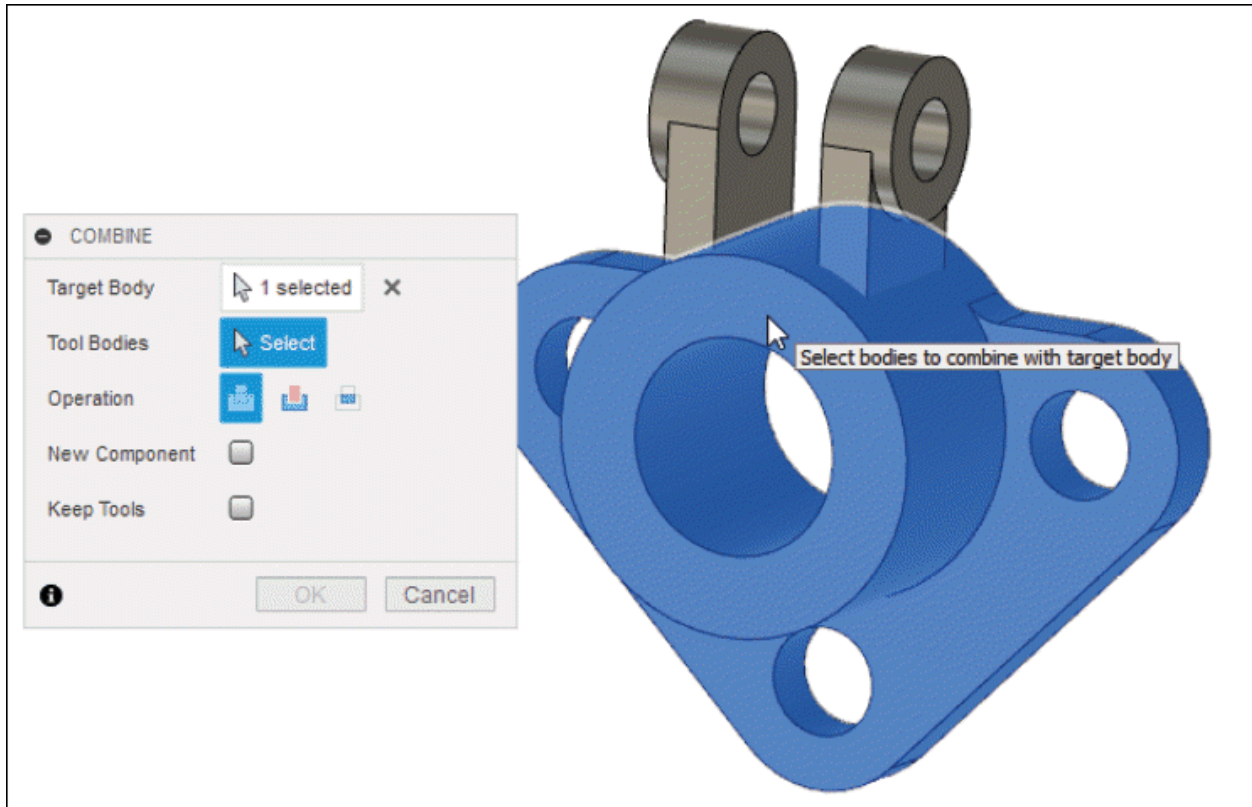

Figure-60. Selecting the target body
- The **Select** button of **Target Body** section is active by default. Select the body from the model as shown in Figure-60. You are asked to select the tool body.